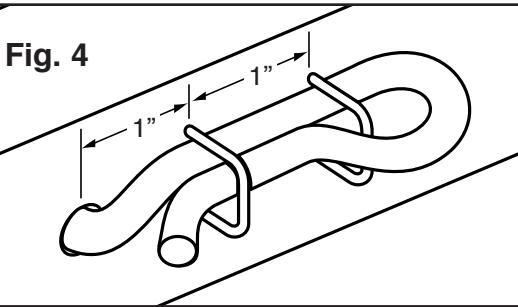

Fig. 4
7. Place two rope staples as indicated in Fig. 4. Thread the Cargo Net through the holes of the base and loop through the staples as shown (Fig. 4). Pull tight and secure by pounding staples tight against the base.